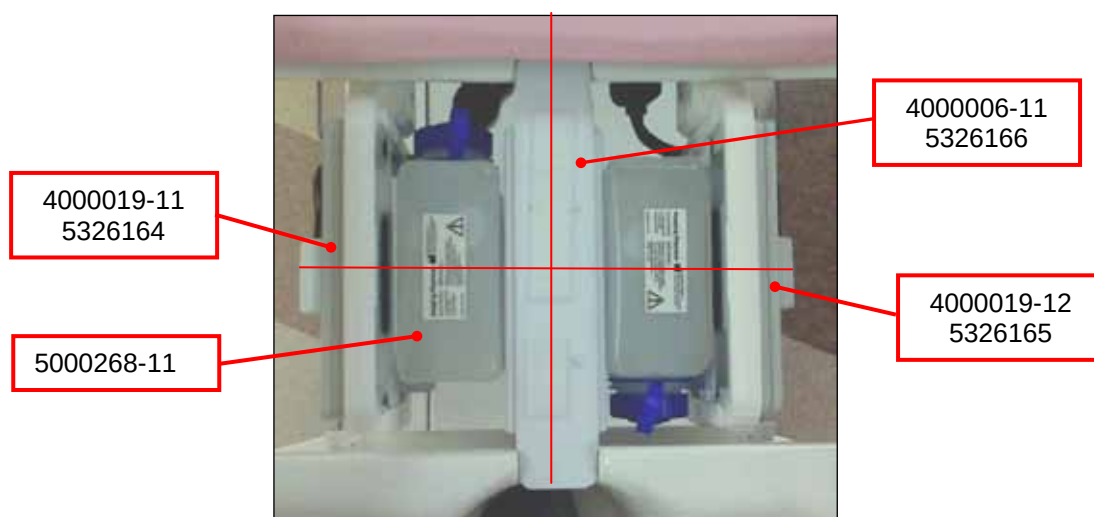

Figure 56: Positioning Phantoms in Frame
1. Install the compression frames, medial array and lateral arrays, as shown in Figure 56.